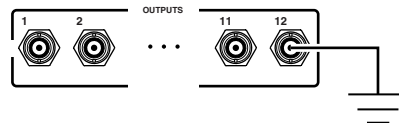

Figure 2-3. Output 12 Grounded
- 2 Verify the **ALARM/STATUS** output function by shorting to ground any of the outputs (1-12). Let's use output **12** as shown in Figure 2-3.